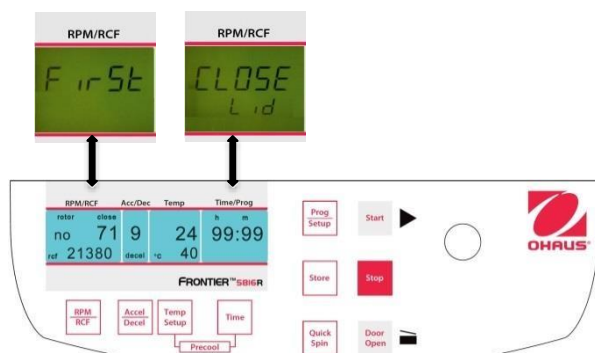
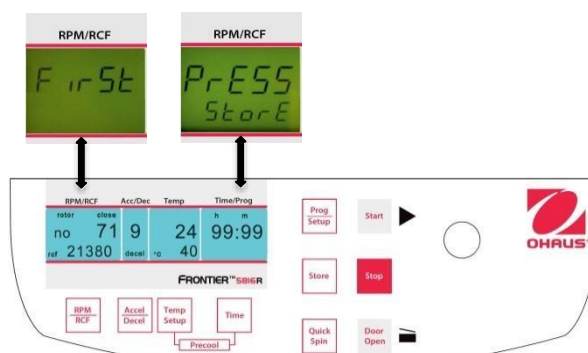

Figure. 23
Figure. 24
Close the lid of the centrifuge. Now proceed as described previously to set all important run parameters. If the lid isn't closed when storing the program, in the display **"RPM/RCF"** (A-1), the words **"First"** and **"CLOSE Lid"** (See figure 23) flashes alternately. If you want to start the run without storing the program, in the display **"RPM/RCF"** (A-1), the words **"First"** and **"PrESS StoreE"** (See figure 24) flashes alternately.
For adaption of data press the key **"Store"** (12) (refer to figures 23 and 24) for approx. 1 second. If the program is stored correctly, the word **"StoreE"** appears in the display **"RPM/RCF"** (A-1). As a result, the word **"programm"** (M10) disappears.